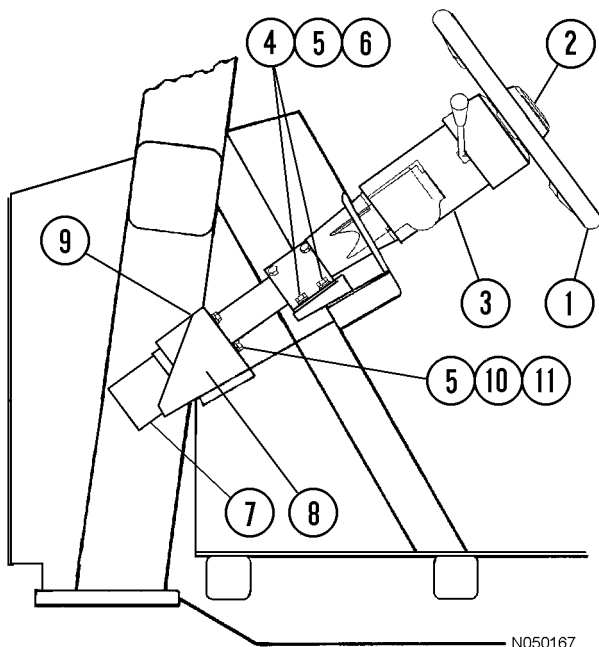

FIGURE 50-1. STEERING CONTROL UNIT
3. Clean steering control unit (7, Figure 50-1) and surrounding area to help avoid contaminating the hydraulic oil when any lines are opened.
5. Remove four mounting capscrews (10, Figure 50-1), flat washers and lockwashers. Remove steering control unit (7).